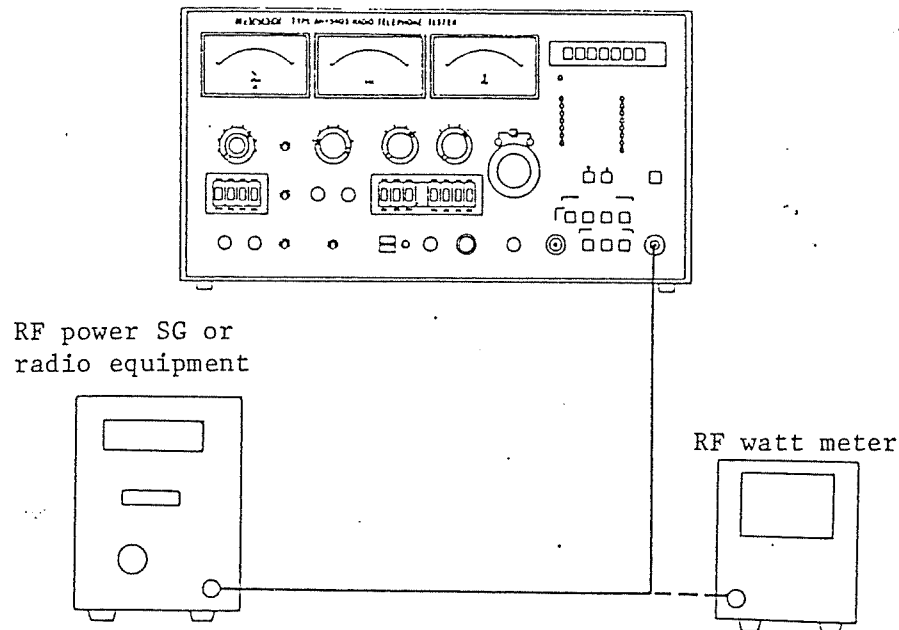

Fig. 3-10 Scale accuracy test (RF wattmeter)
- (1) Connect a 25 to 520 MHz RF power SG or radio equipment to the [RF INPUT/OUTPUT 50  $\Omega$  MAX. 50  $\Omega$ ] connector of this apparatus as shown in Fig. 3-10.
- (2) Set the controls of this apparatus as follows: